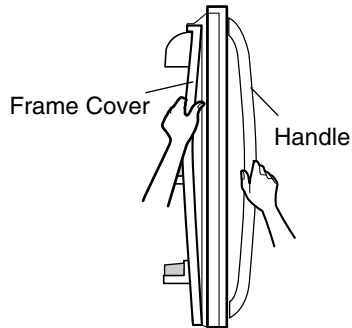

Figure 1
1. Disconnect water supply tube by pushing back on the disconnect ring (4).-FIG. 1
2. Open door. Loosen top hinge cover screw (1).
- Use flat tip screwdriver to pry back hooks on front underside of cover (3). Lift up cover.
3. Disconnect door switch wire harness (2).
5. Disconnect the three wire harnesses (5). Remove the grounding screw (6).
6. Rotate hinge lever (7) counterclockwise. Lift top hinge (8) free of hinge lever latch (9).